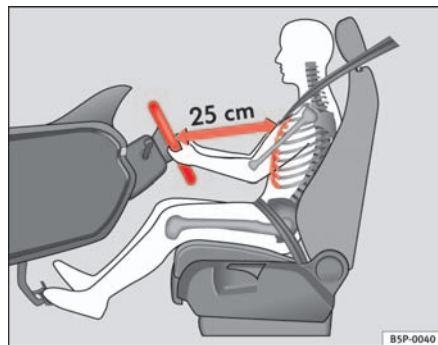

Fig. 128 Proper sitting position for driver
- Adjust the steering wheel in this way until the correct position is set ⇒ fig. 128.
- Adjust the driver seat or steering wheel so that there is a distance of at least 25 cm between the steering wheel and your breast bone ⇒ page 157, fig. 128. If you fail to observe the minimum distance, the airbag will not protect you. Risk of fatal injury.